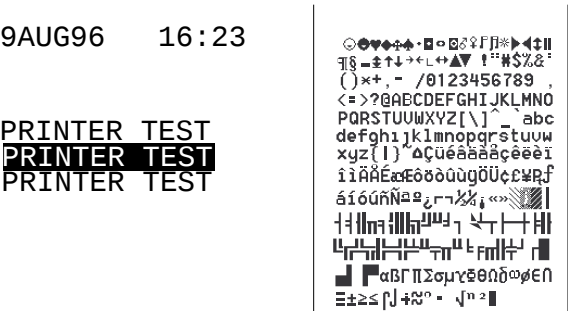

Figure 3-9: Text Test Printout
3. Press softkey #3, “TEXT TEST”. Verify that a list of ASCII characters prints as illustrated in Figure 3-9.